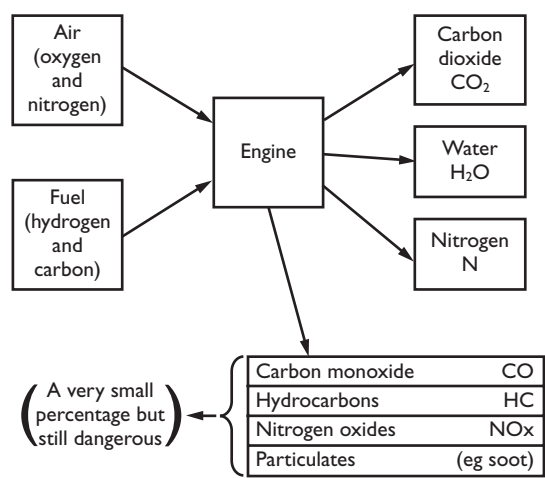

Figure 8.2 Exhaust emission byproducts
Figure 8.2 is a representation of what happens when air and fuel are burnt in an engine. Points to note are that air consists of oxygen (O) and nitrogen (N), and that petrol is made of hydrocarbons (HC), which consists of hydrogen (H) and carbon (C). You will see that the combustion byproducts (or exhaust) largely consist of carbon dioxide, water and nitrogen. All of these are harmless to us, but the small amount of poisonous emissions produced can be dangerous.